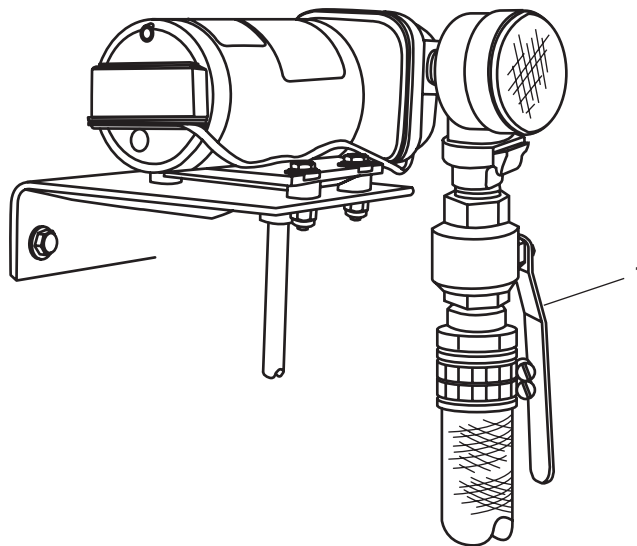

Figure 15. Fresh Water Flush Pump Outlet Valve
- d. OPEN the FRESH WATER FLUSH PUMP OUTLET valve (figure 15, item 1).